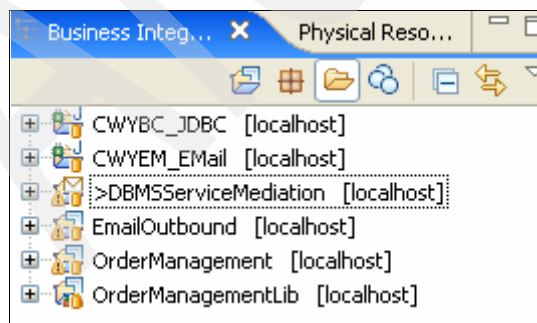

Figure 7-7 Business Integration view with the required components
1. Import the following modules and libraries that you need for this phase of testing from CVS or from a project interchange file that is supplied by the developer (as shown in Figure 7-7):